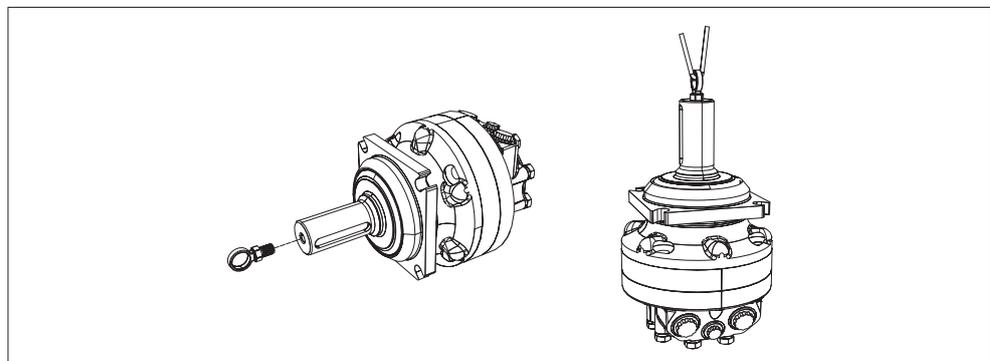

Fig. 15: Fixing the eye bolt
- ▶ The eye bolt should be screwed fully into the female thread in the end of the drive shaft, the motor may then be hoisted as indicated in Fig. 15 below.